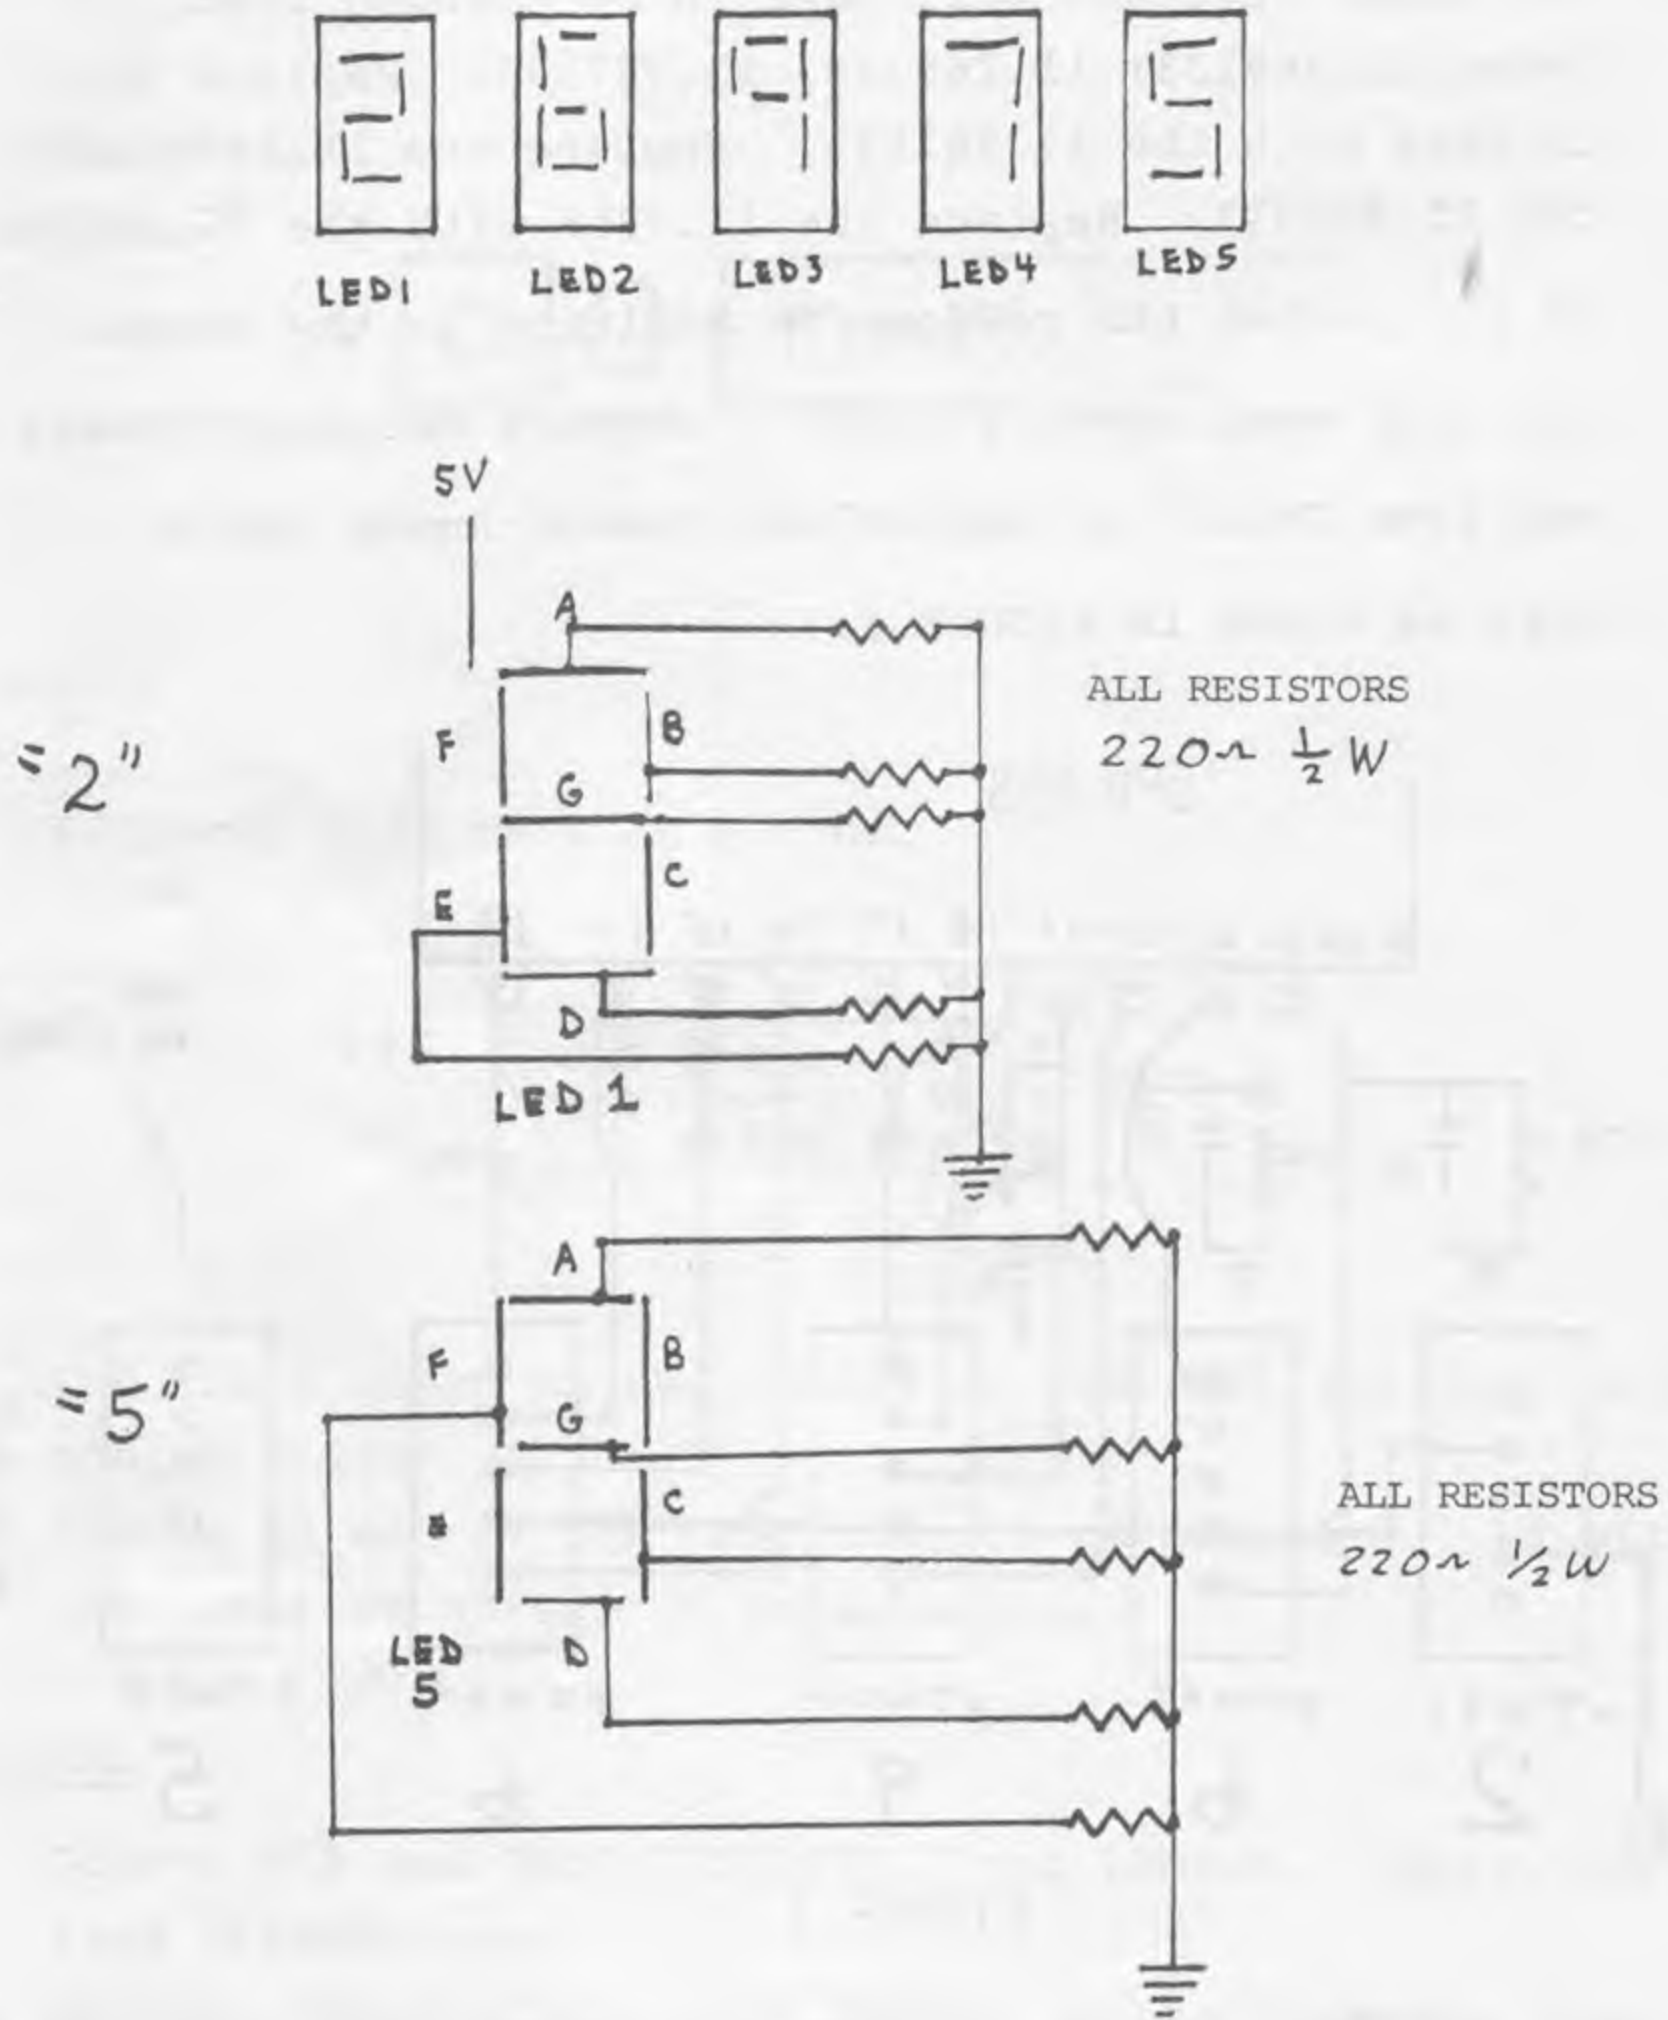

FIGURE 2
2. The mixer crystals will have to be changed also. Order 11.269133; 11.268333; 11.267533. Replace the 11.2842 with the 11.267533. Replace the 11.2850 with the 11.268333. Replace the 11.2858 with the 11.269133. If you prefer LED readout in addition to the above, you will need three TTL7447 7 segment decoder/drivers and five FND507 or equivalent Common Anode LED's. Wire as shown in FIGURE 2.